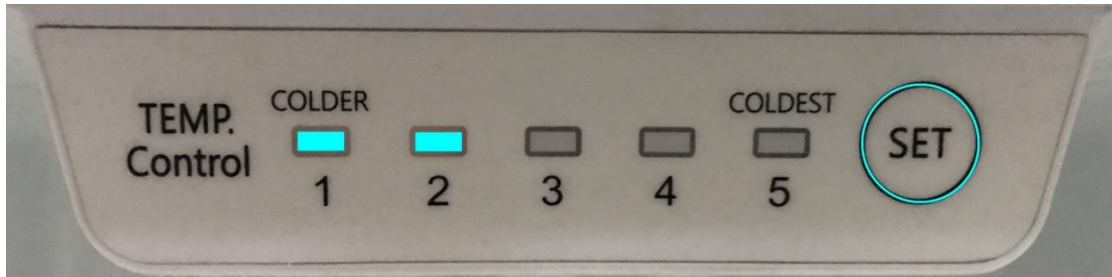

Figure 2-2
2. Refrigeration sensor failure: LED1 and LED2, as shown in Figure 2-2;